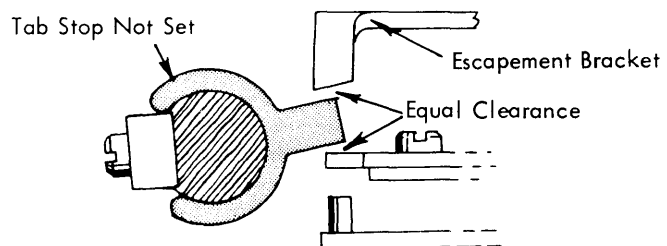

FIGURE 160. Tab Rack Bellcrank Adjustment
1. Tab Rack Bellcrank - Adjust the bellcrank attached to the left end of the tab rack so that an unset tab stop is centered between the tab lever pawl and the tab set lug on the escapement bracket (Fig. 160). Latch the tab lever to the rear to check this adjustment.